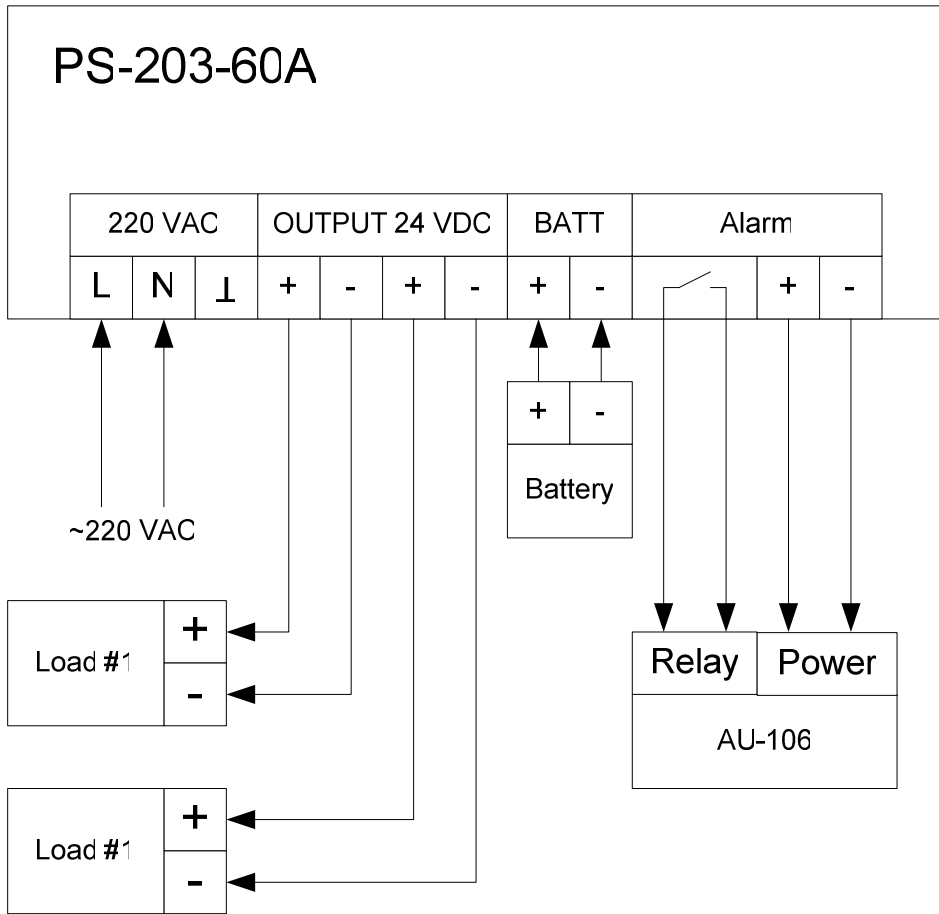

Figure 2. The PS-203-60A connection diagram
- 2) Connect cables of external devices and power supply sources to the PSU terminals as shown in Fig. 2.